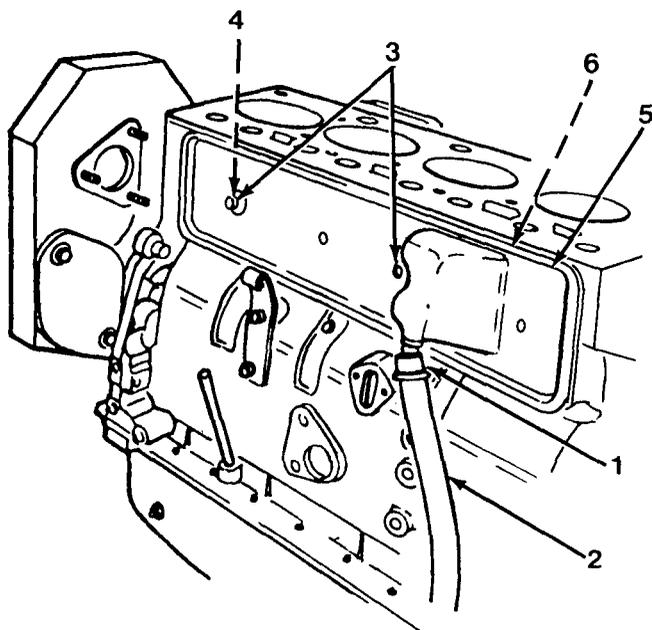

Figure 6-1
1. Install tappet cover gasket (6) with adhesive side down on tappet cover (5, Figure 6-1). Apply sealant ML-S-79 16 to top of gasket and block.
2. Install tappet cover (5), two capscrew seals (4), and capscrews (3) on block. Torque two capscrews (3) to 18 lb-ft (24 N•m).
3. Install hose (2) and spring hose clamp (1) on tappet cover (5).